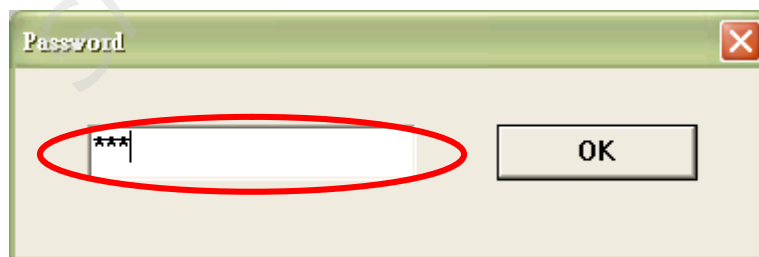

Fig. 2 Password entering for 「Setting」 Function.
- Password Entering:(see the Fig. 2)